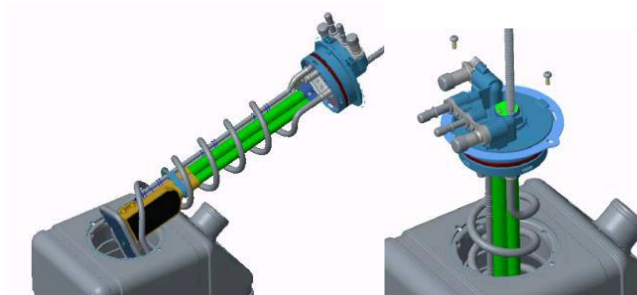

Figure 4.2
7. Tilt the header to an approximate 45° angle, with respect to the top of the tank. With the heel of the MFHU Sensor foot angled upward, place the toe of the coolant heater coil into the tank bore. Gradually work the bottom portion of the DEF head into the bore opening until completely inserted in the tank. - *Reference Figure 4.2*